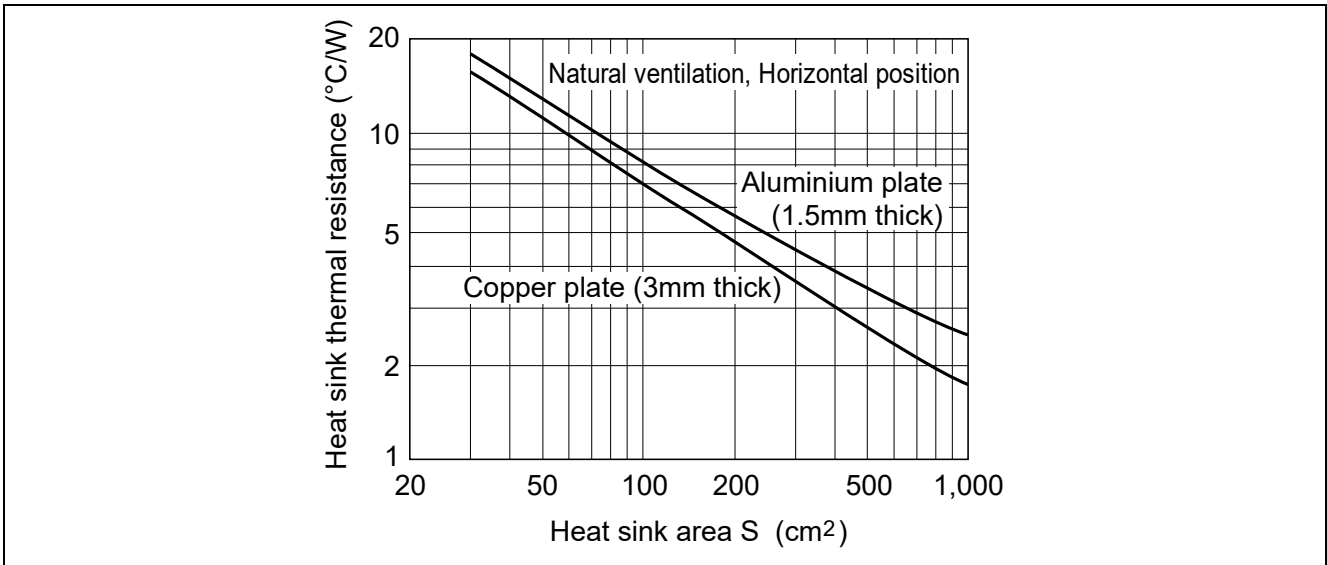
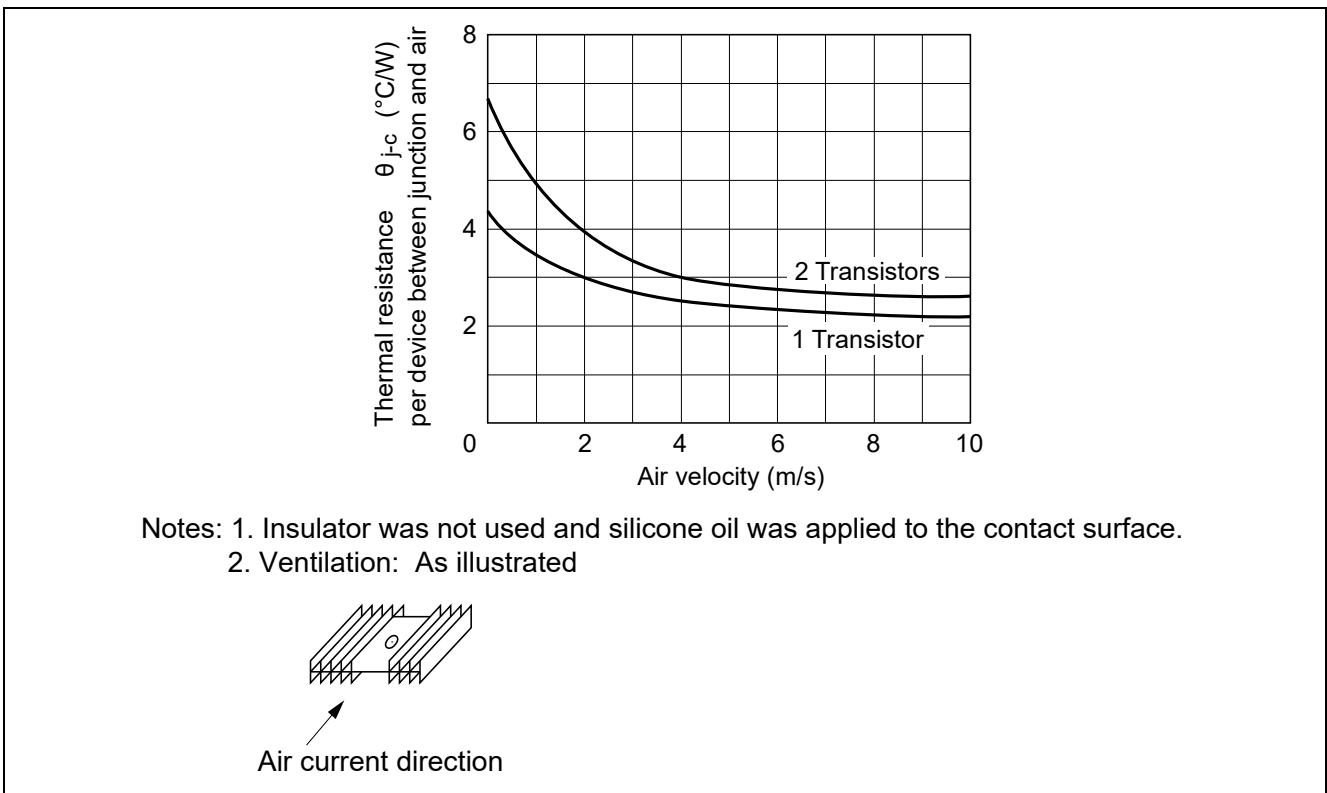

Figure 10 Relation between Heat Sink Area and Thermal Resistance
Figure 11 Thermal Resistance with Forced Air cooling
- (ii) Heat sink must have a suitable shape and dimensions for efficient radiation. Also, forcibly cool down the semiconductor devices etc., if necessary. (figure 10 and figure 11).